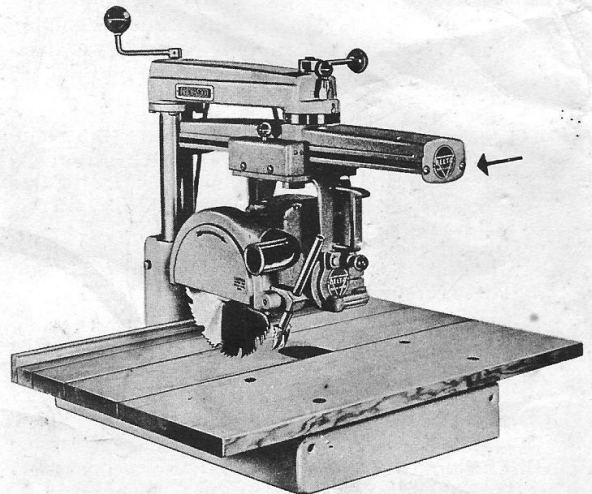

FIGURE 1
1. Remove the two screws and end plate from track-arm, see Fig. 1.
1. Remove end plate from track, see Fig. 1.
Place saw blade on motor arbor with cutting edge of teeth in clockwise direction. The arrow on the safety guard shows how the saw teeth must point for proper cutting action, see Fig. 1. After saw blade is mounted on arbor against inside collar, place outside collar, recessed side against the saw blade, then tighten arbor nut (left-hand thread) with wrench.